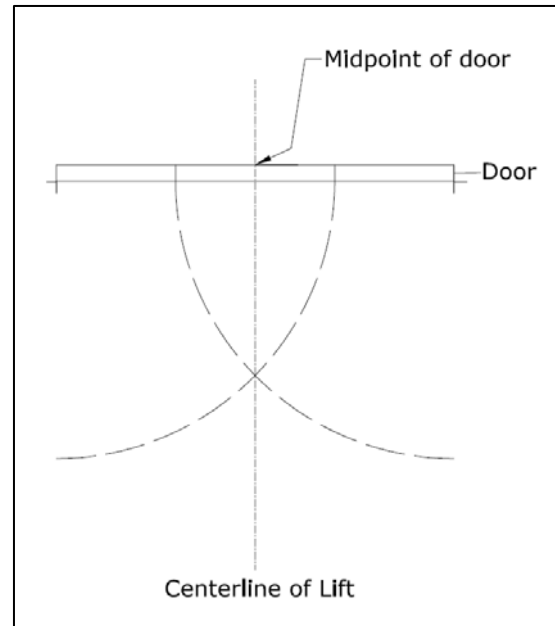

Figure 3. Chalk line
7.2.6 Measure the specified distance (126") to draw a second chalk line at 90° for locating the lift towers. Refer to Figure 3.